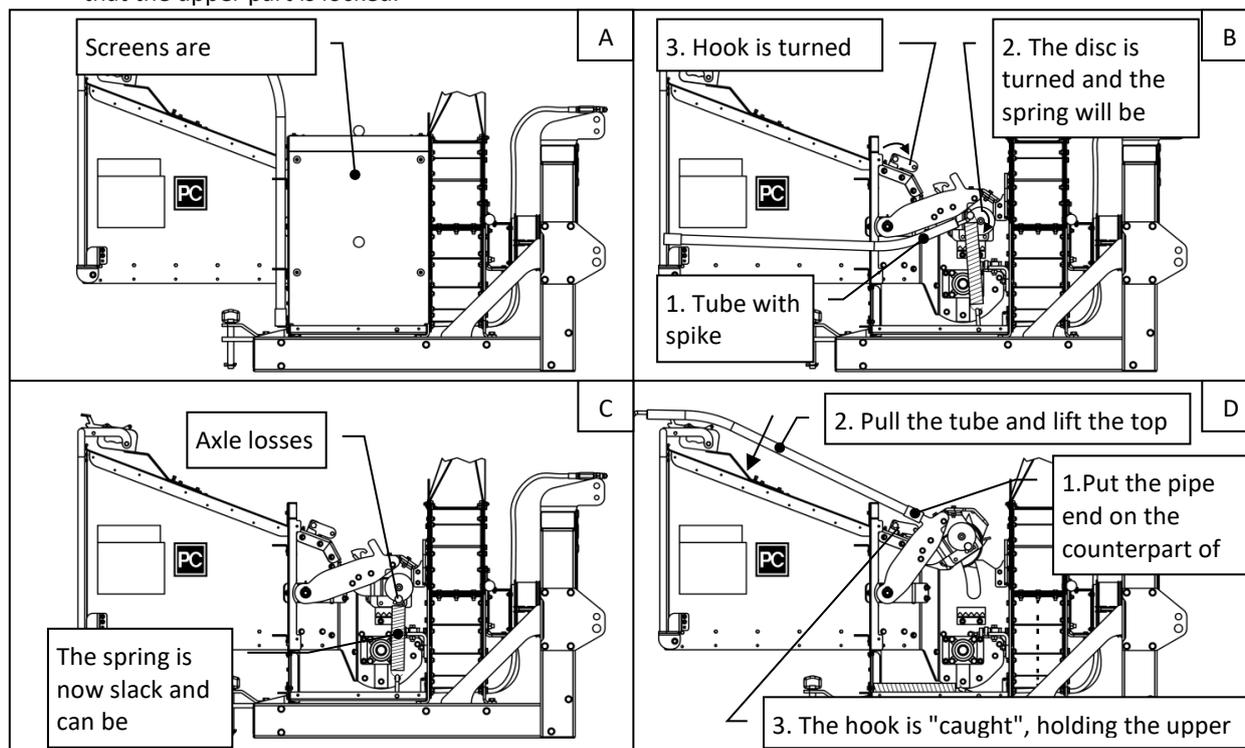

Figure 24
2. Loosen the spring by turning the pad clockwise using the supplied tube with spike (see Figure 24 B).
4. Turn the hook on the upper part down (see Figure 24 B).
5. Lift the top of the feeder with the supplied tube and hold it in place with the hook (see Figure 24 D).
6. The split (see Figure 24 D) can now be inserted through the hook and hook holder that catches the hook so that the upper part is locked.